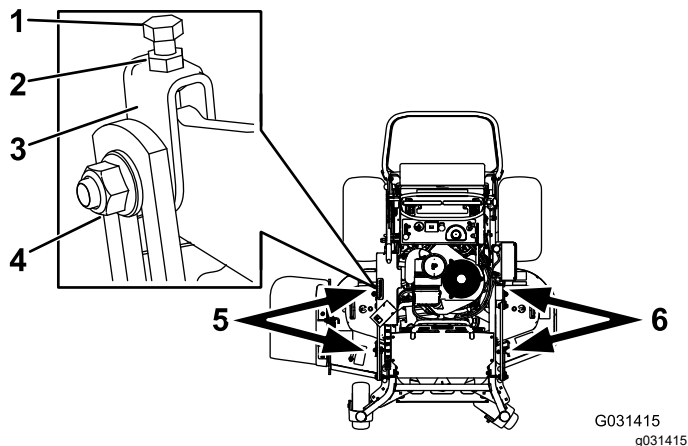

Figure 88
1. Loosen the side nut and jam nut in the yokes you want to adjust (Figure 88).
2. Rotate the top bolt of the yokes to adjust the height of the mower deck (Figure 88).